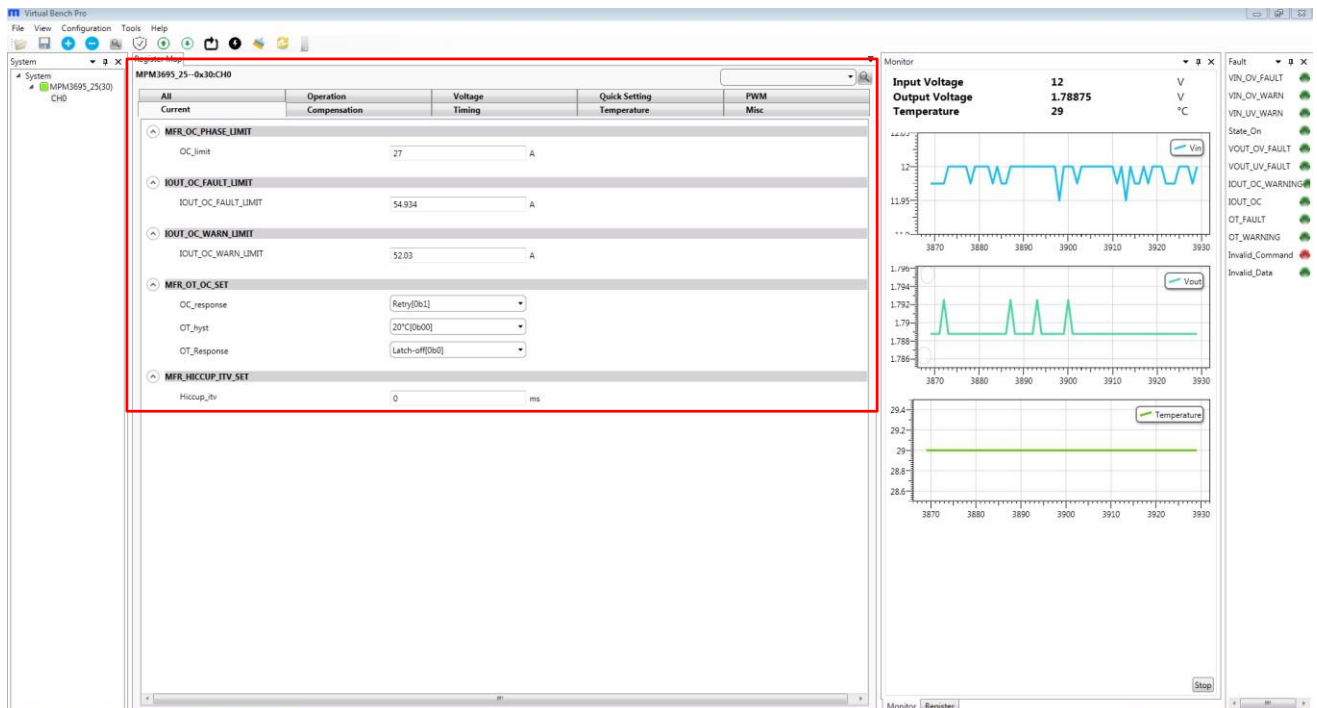

Figure 7: Values in the Register of the Module are Displayed
- The Register Control menu will appear in the middle panel. The values stored in the registers of the module will be read automatically (see Figure 7).